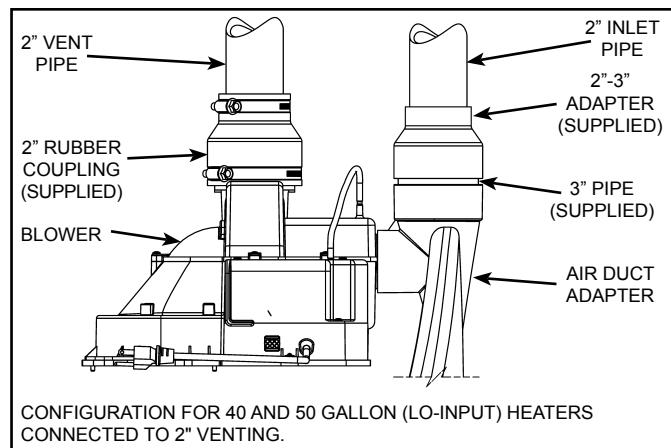
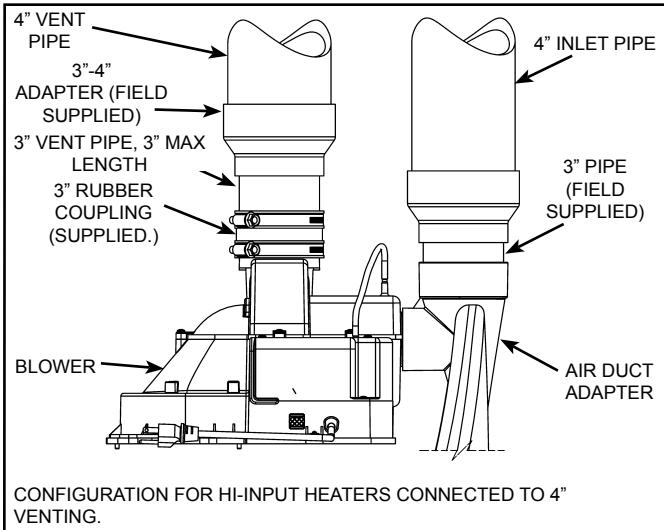

Figure 44.
Figure 48.
4. Make sure that the plastic tubing is still attached from the air pressure switch to the port on the blower motor housing. Make sure the plastic tubing is not folded anywhere between the pressure switch and the blower motor housing (see Figure 44 thru Figure 48).
- Important:** These connections must be properly seated and tightened to prevent the leakage of flue gases into the area. See Figure 44 thru Figure 48.